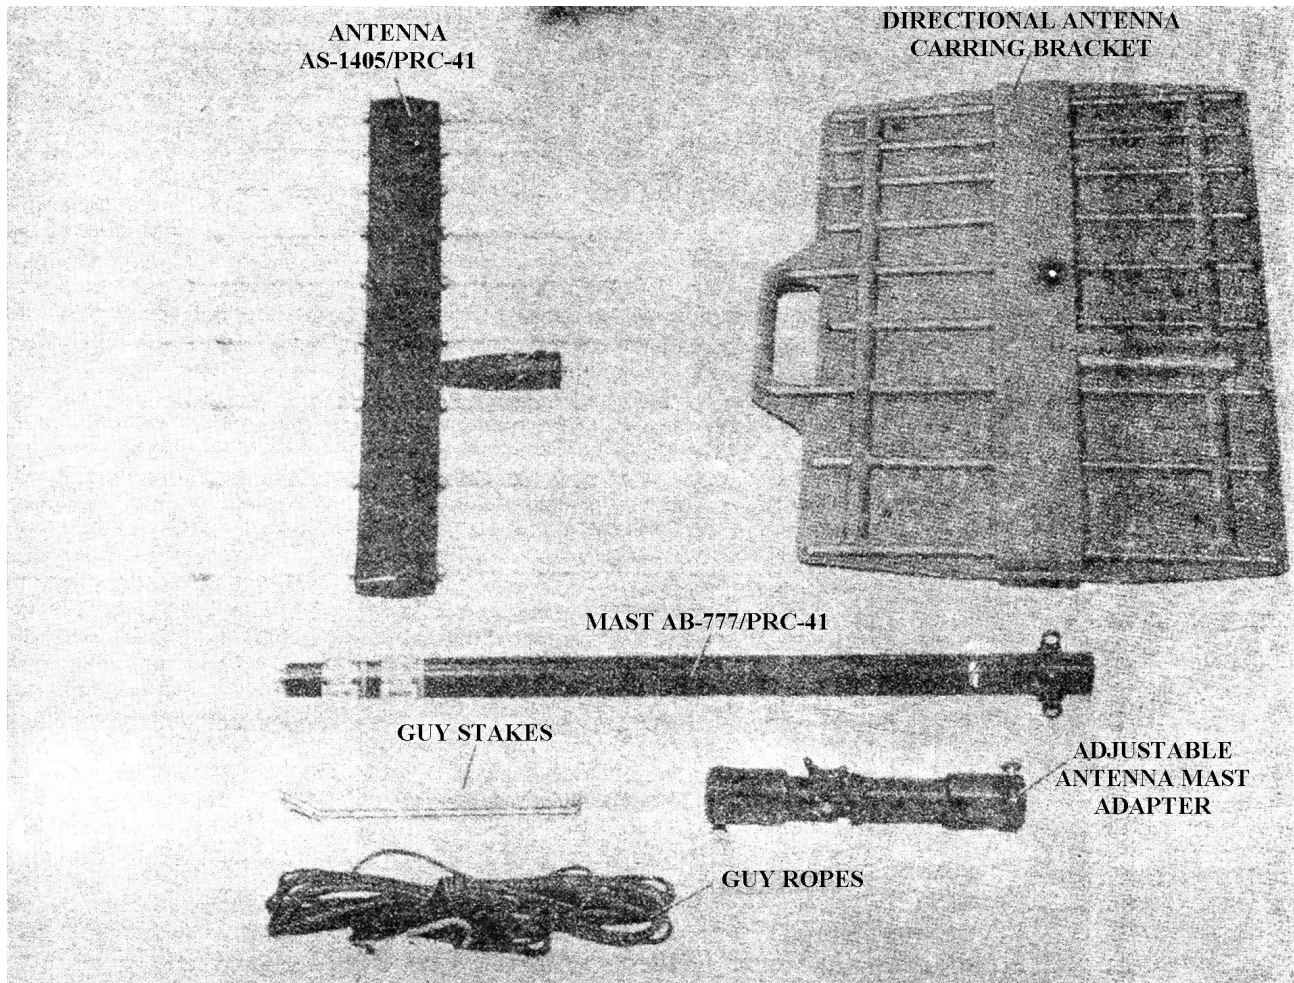

Figure 1-9. Antenna AS-1405/PRC-41, Mast AB-777/PRC-41, and Accessories
(4) ANTENNA AS-1405/PRC-41 AND ACCESSORIES. - Refer to figure 1-9. Antenna AS-1405/PRC-41 is a directional antenna for use with Radio Receiver - Transmitter RT-695/PRC-41. The AS-1405/PRC-41 is used for transmission and reception of signals in the 225- to 399.9-mc range. The elements of Antenna AS-1405/PRC-41 are made collapsible for storage. The AS-1405/PRC-41 is a planer log periodic dipole array which provides unidirectional directivity characteristics. Antenna AS-1405/PRC-41 mounts on an adjustable antenna mast adapter and Mast AB-777/PRC-41. Guy ropes and stakes permit Mast AB-777/PRC-41 to be staked in place in a fixed station installation. The adjustable antenna mast adapter permits